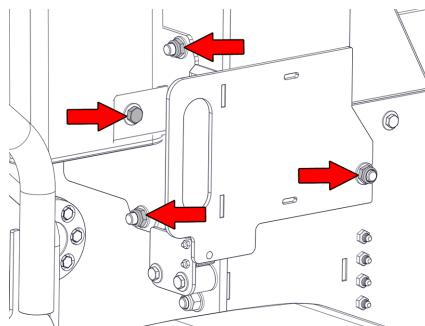

Figure 21 - Rotor Housing Access Hatch
4. Remove the three nuts and washers retaining the rotor housing blade access hatch and remove the hatch (Figure 21).